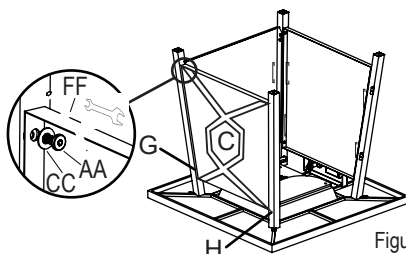

Figure 5
5. Insert panel (C/D/F) to back-left leg (G) and back-right leg (H) with bolts (AA) and washer (CC) using hex screw driver (DD), (see Figure 5).